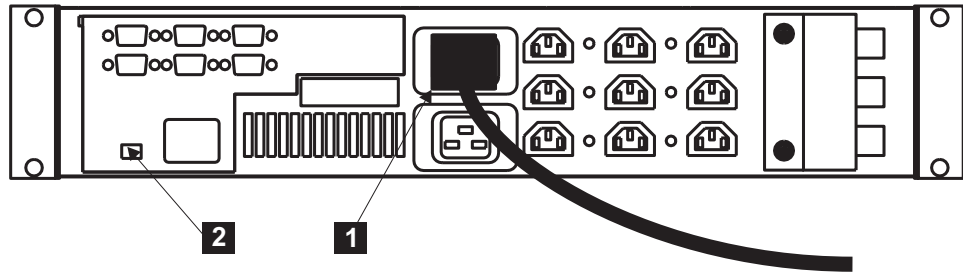

Figure 297. Installing the 2145 uninterruptible power supply power cable
9. At the back of the 2145 uninterruptible power supply, plug the 2145 uninterruptible power supply main power cable into the power socket, **1** in Figure 297 on page 623.